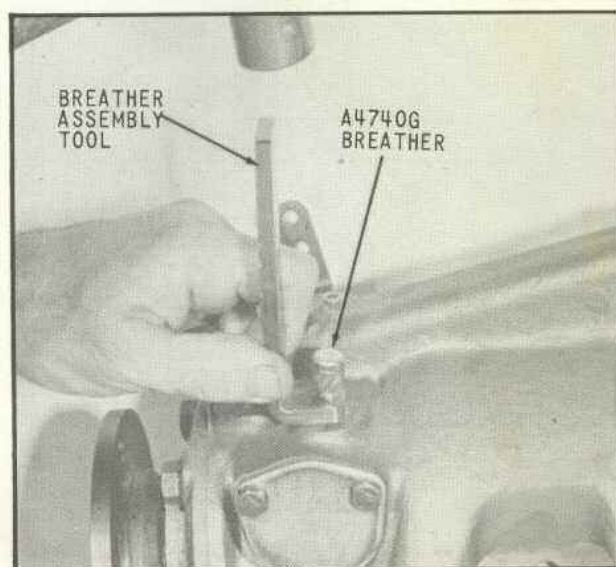

Fig. 78 Installation of Breather Assembly
79. Install the breather assembly as shown in (Fig. 78). Do not hammer on the top of the breather assembly illustrated as this will damage the sealing element. For installation of other type breather assemblies see page 48, (paragraphs 3 & 4) for instructions.
3. In addition to the breather assembly shown in (Fig. 78), other breather assemblies will be found in use as illustrated in (Fig. 87) and (Fig. 88). The above illustrations demonstrate the manner in which these breather assemblies are installed.